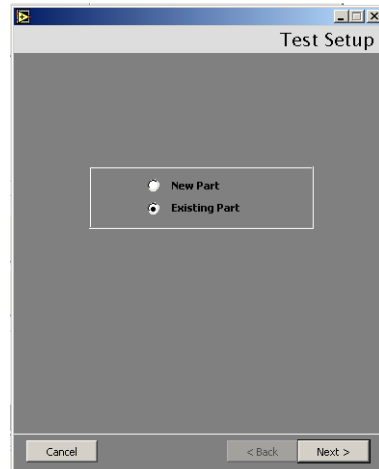

Figure 2-17 Test Setup
1. Click **Multi Part Tester** on the *Home* screen and Figure 2-17 appears.